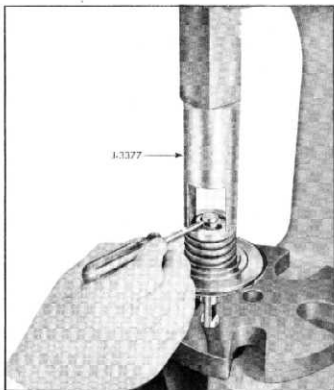

Fig. 108—Removing Piston Retainer Keys
1. Place reverse servo piston in bench press and with tool J-3377 compress piston spring and remove piston spring retainer key and retainer (fig. 108) and remove piston from piston shaft.